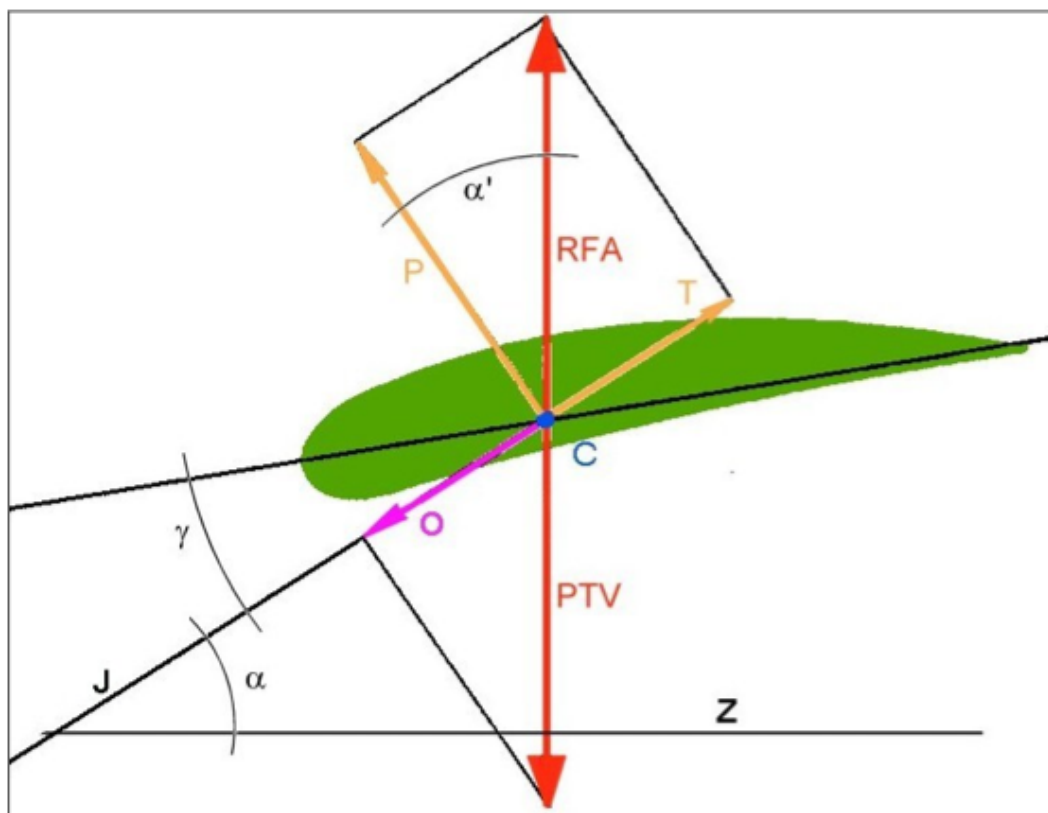

Figure A28: Equilibrium of forces of a glider in straight & uniform flight.
A paraglider, not subject to varying forces (= no acceleration) flies in a uniform linear motion. The resultant of all forces acting on the wing is zero. The total weight in flight (take-off weight, PTV in the diagram), acting vertically downward, must be opposed by a counter force vertically, (i.e. the same magnitude but directed upwards). This force is called the resultant aerodynamic force (RFA in the diagram). See Figure A28. **Questions 102 to 111.** The resultant aerodynamic force can be separated into lift (P) perpendicular to the trajectory and facing upwards, and drag (T), parallel to, and in the opposite direction of, the trajectory (direction of airflow). The component (force) of the take-off weight, parallel to the trajectory (towards the leading edge and opposing the drag) has the same value as the drag and is called the thrust (O).